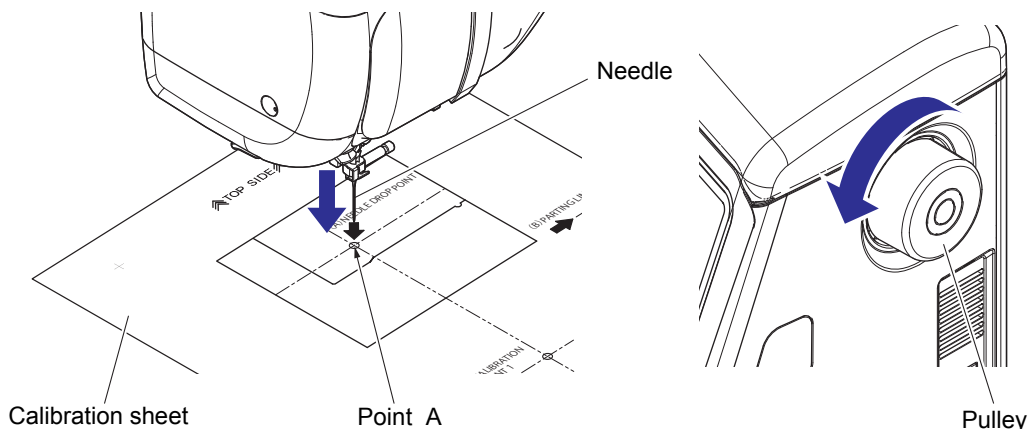

Fig.7
7. Turn the pulley by hand to put the needle top into point A of the calibration sheet. (Fig.7)